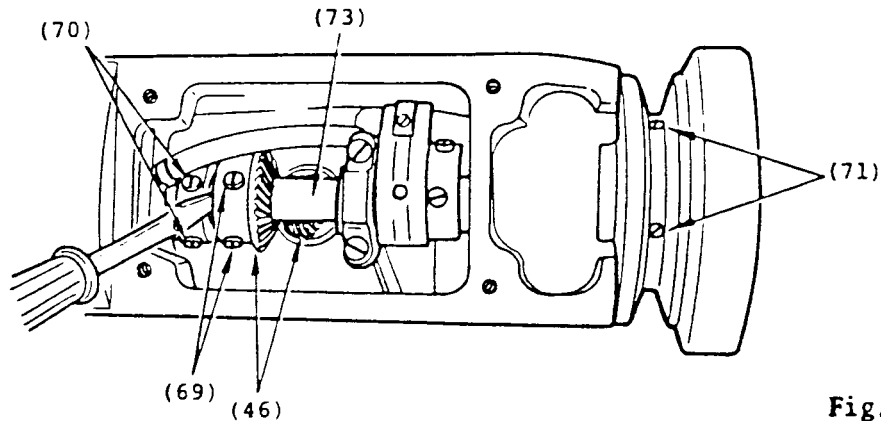

Fig. 36
- While still holding the bevel gears at (46) in mesh with a screwdriver, as shown in Fig. 36, push the arm shaft (73) straight through the machine arm, thrust collar, bevel gear, and feed and feed lifting eccentric. When installing the new arm shaft, make certain that every care is taken to avoid injury to the ring and the oil seal in the arm shaft bushing.
- Replace machine pulley on the arm shaft with the two set screws (71) located over the two grooves on the shaft and temporarily tighten the set screws.
- Locate arm shaft collar in position as shown in Fig. 36 to eliminate end play of shaft and firmly tighten set screw (70). Test the arm shaft for freedom in rotation.